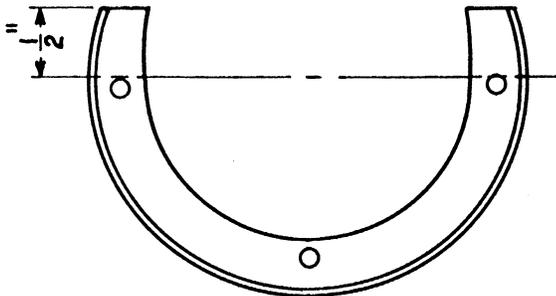

Fig. 20 - Modified 59A Dial Adapter
3.06 When a 6-type dial is used as a replacement and where a 59A dial adapter is present, it may be necessary to alter the dial adapter to provide clearance without binding between the plastic cover on the 6-type dial and the dial adapter. This may be accomplished by cutting the adapter to the approximate dimensions shown in Fig. 20. If this is done, the adapter may be used interchangeably with 5- or 6-type dials.